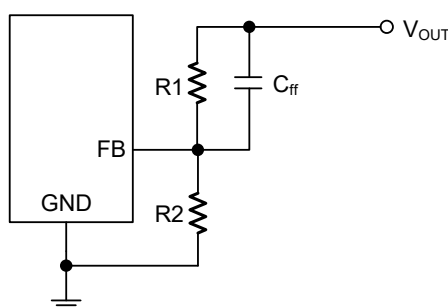

Figure. 1 Output Voltage Setting Circuits
Figure 1 shows the output voltage setting circuit of **UD052015**. The external resistance voltage divider can set the output voltage according to equation (1).